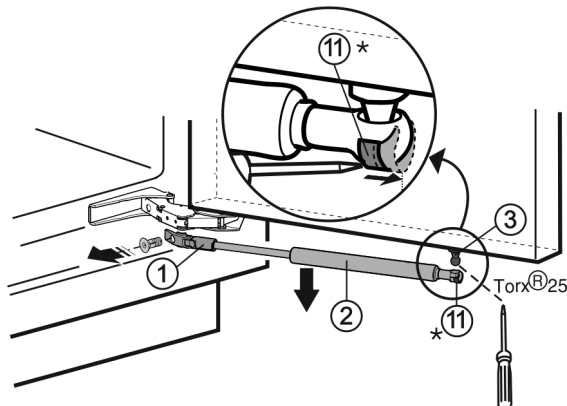

Fig. 7
- Push tension spring Fig. 7 (11) outwards, using a screwdriver.*
- Lower soft stop mechanism Fig. 7 (2) for removal.
- Unscrew holder Fig. 7 (1).
- Unscrew the ball stud Fig. 7 (3) (Torx® 25).